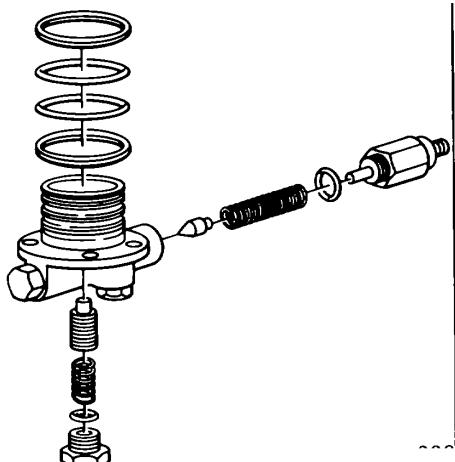

Figure 229.
C-1 Install O-rings (52) and back up rings (51) being certain that they are installed In the manner illustrated Install new O-ring (46). See Figs 229 and 235.
C-4 Install high pressure relief valve pilot (13), spring (11), inner spring seat (10), and a new O-ring (6) See Fig. 229.